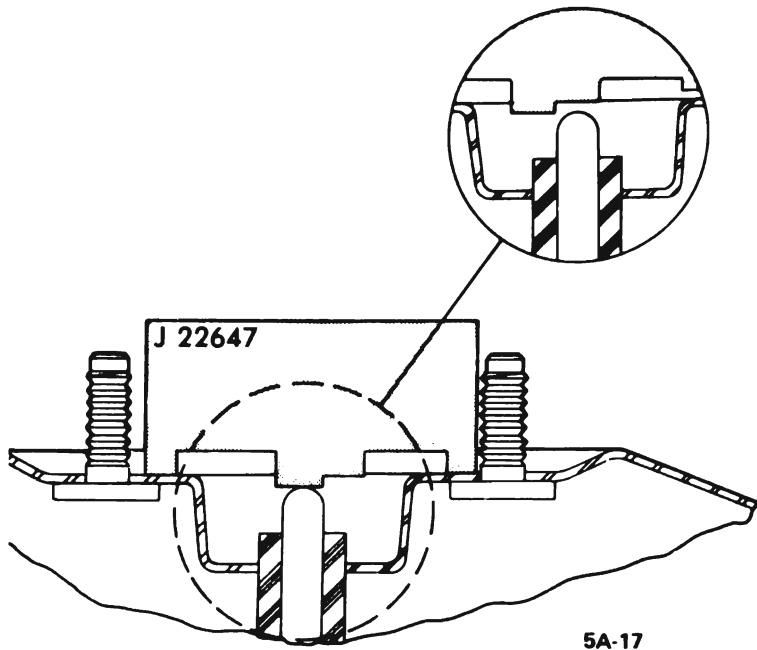

Figure 5A-17 Gaging Piston Rod
8. To facilitate locking, position front housing seal in the depression in the front housing and apply a vacuum source to the vacuum check valve in the front housing. Using Tool J-23456, press down and rotate the rear housing clockwise into the locked position. Remove Tool J-23456; remove the vacuum source. See Figure 5A-4.
6. Place Gage J-22647 over the piston rod in a position which will allow the gage to be slipped to the left or right without contacting the studs. See Figure 5A-17.